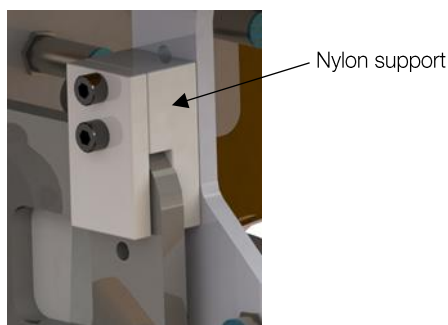

Figure 8.17: Nylon support
- Check the nylon support (Figure 8.17) of the brush holder system in relation to wear and clearance. If necessary, change them;